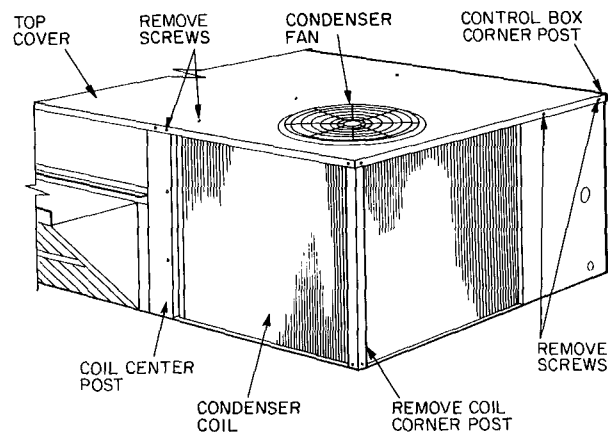
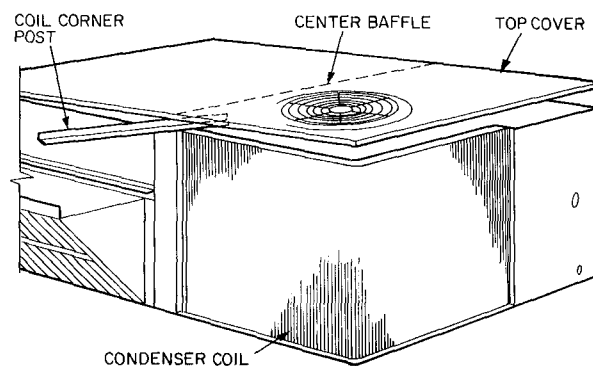

Fig. 13 — Cleaning Condenser Coil
Fig. 14 — Propping Up Top Panel
3. Remove condenser coil corner post. See Fig. 13. To hold top cover open, place coil corner post between top cover and center post. See Fig. 14.